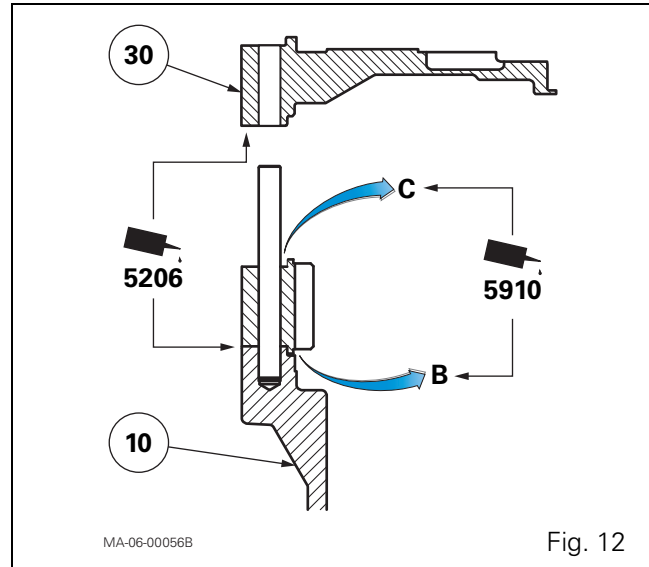

Fig. 12
37. Clean the mating surfaces of the trumpet housing (10), the ring gear and compartment with solvent. Remove all traces of the previous sealing product. Dry the components.
38. Smear (Fig. 12):
- the mating faces of the trumpet housing (10) and compartment (30) with Loctite 5206 sealant or equivalent;
- angles B and C of the trumpet housing (10) and compartment (30) with a silicone seal (Loctite 5910 or equivalent).